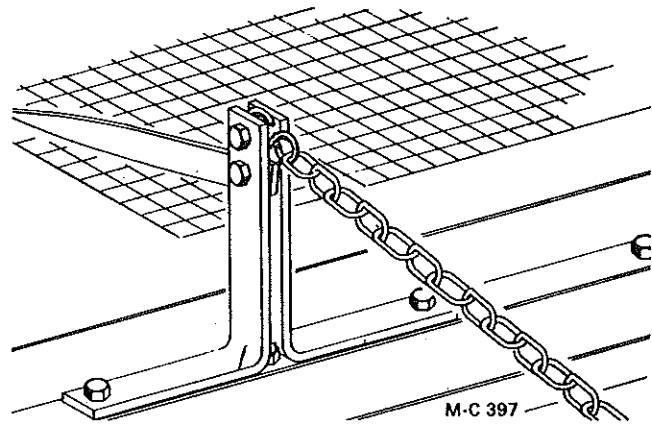

Figure 4
6. Attach the "S" hook to the chain and bend it closed. Hook it to the hopper pull straps (Figure 4) or to the hopper pull rail.